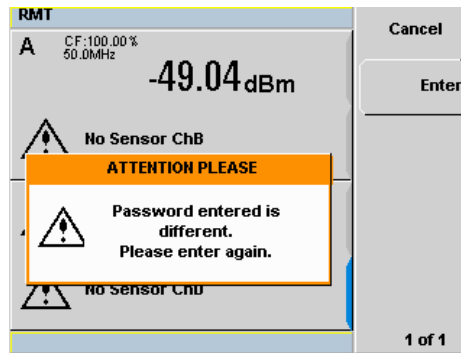

Figure 2-51 Warning message
- 7 A warning message pop-up will be displayed if the password entered is different from the initial password (see Figure 2-51). This warning will appear for two seconds before the enter password pop-up is displayed again.